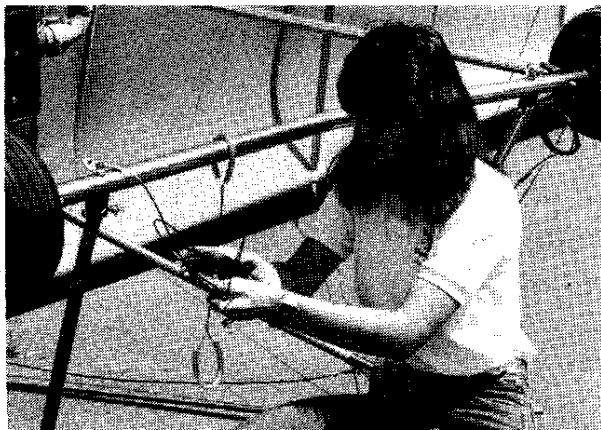

Figure 2.20
26. Uncoil landing gear side wires on axle. **Figure 2.20**